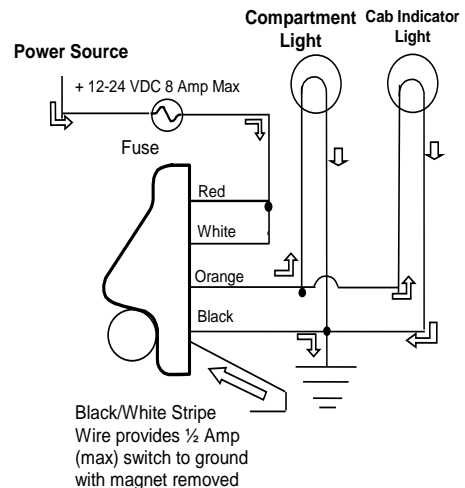

Fig.8A
- c) Go to step 8 if LED DuroStrip™ lighting has been ordered. Then, wire the switch using the wiring diagrams provided in either Fig. 8 or Fig. 8A.